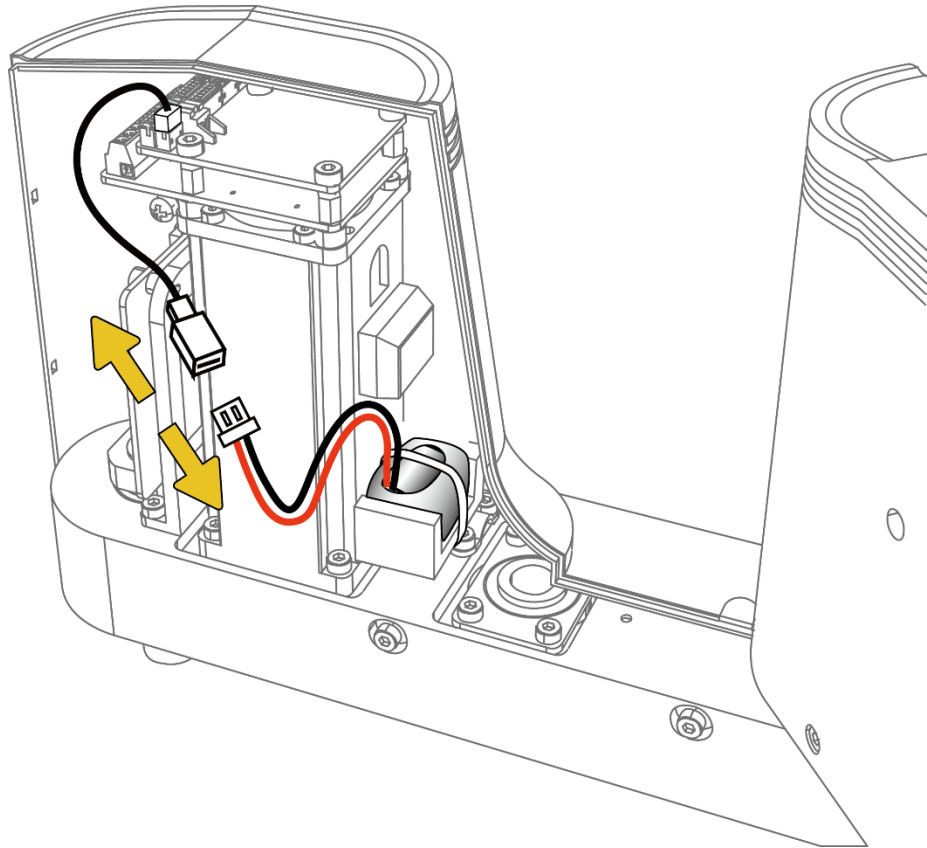

Figure 7.25 Disconnect the battery from the battery adapter
3. Remove the original battery and disconnect the connector of the battery from the battery adapter cable, as shown in Figure 7.25.